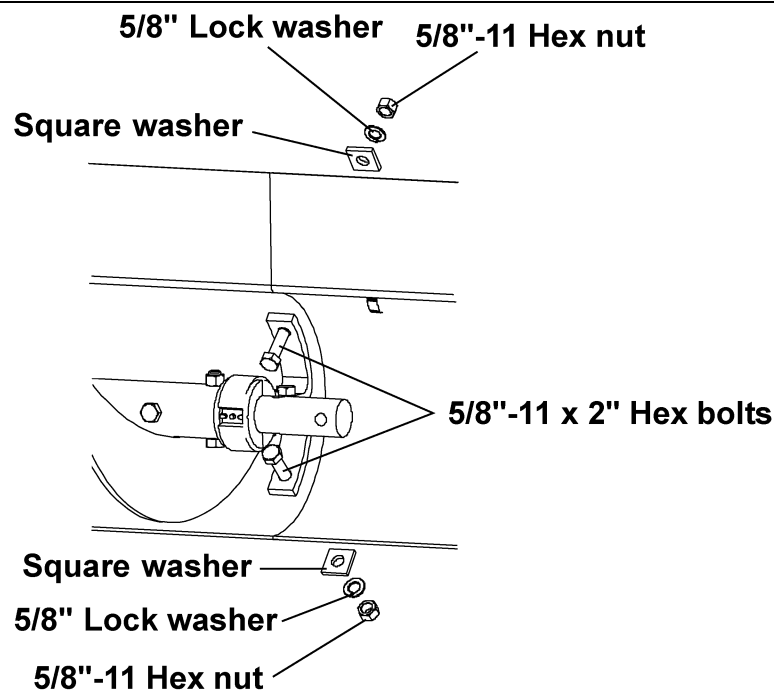

Figure 5F
- B. Bolt the hanger brackets to the back shields using two (2) 5/8"-11 x 2" hex bolts, two (2) square washers, two (2) lock washers and two (2) hex nuts as shown in Figure 5F.